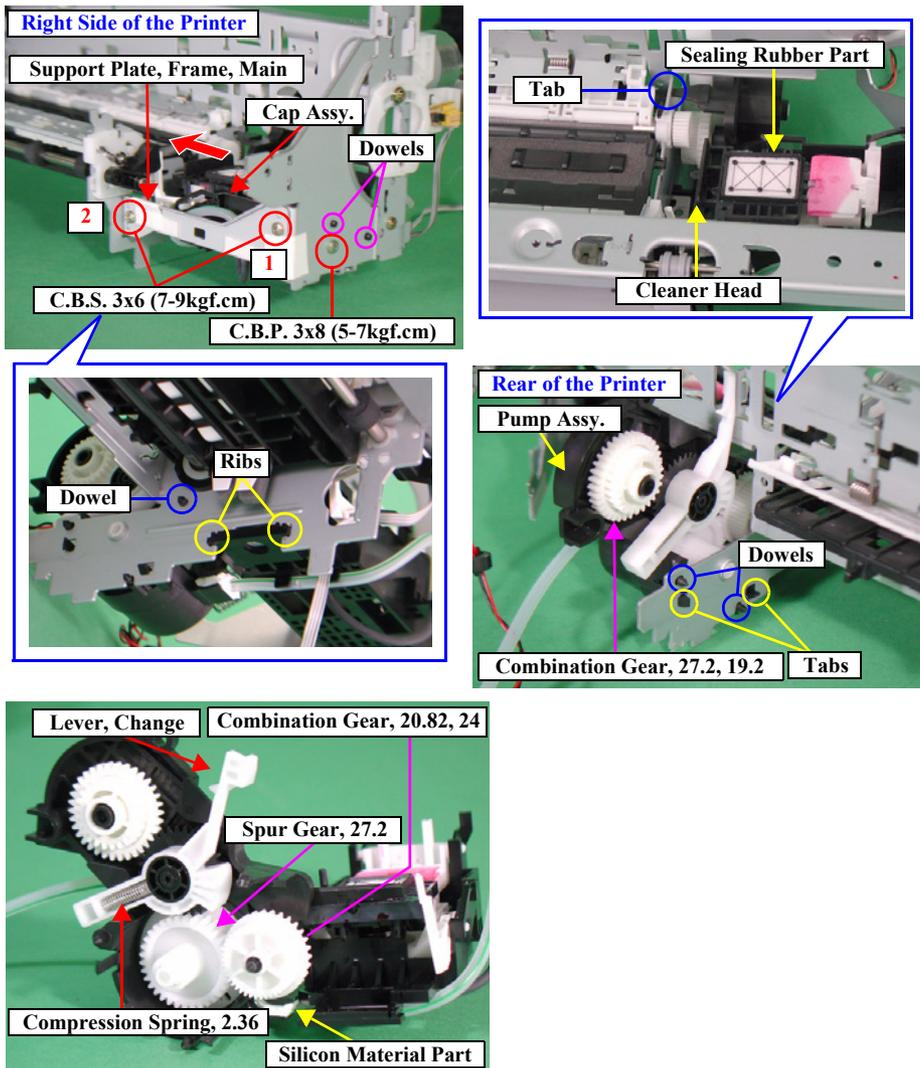

Figure 2-41. Ink System Unit Removal
- Tighten the two screws to secure the Support Plate, Main in the order shown in Figure2-41.